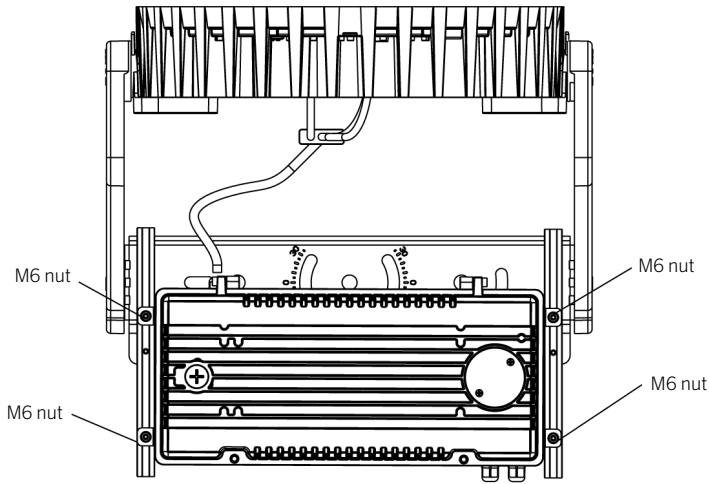

Figure 22
- Loosen the (4) M6 nuts from the driver box, as shown in Figure 22.